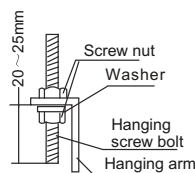

Fig.49-10
2. Location the hanging arm on the hanging screw bolt. (Refer to Fig.49-10)